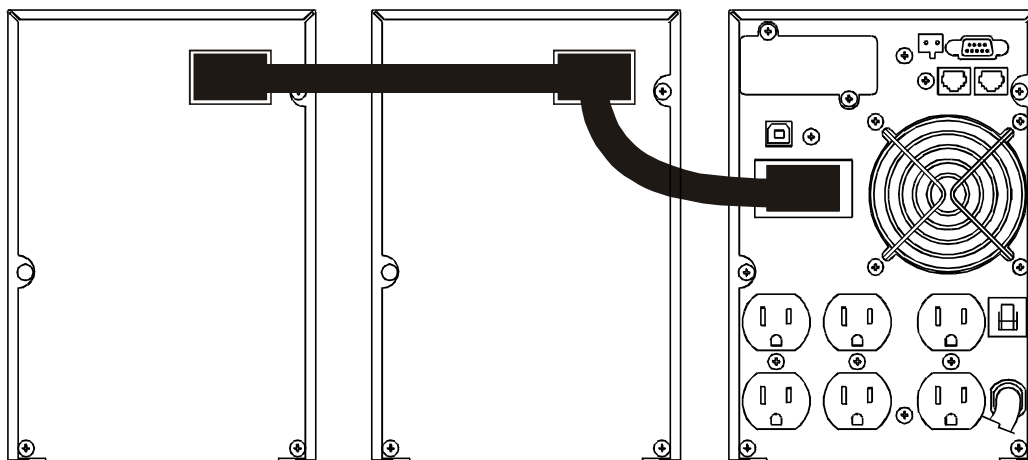

Figure 2.2
- 3** Connect the cable from the battery pack to the unit (Figure 2.2). If used, connect the second battery pack to the first pack.